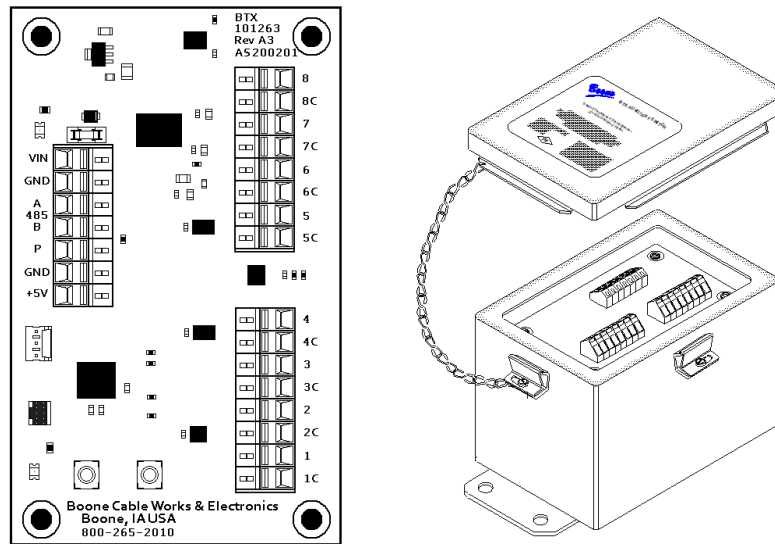

Figure 4. BT8/BTX board with BT8/BTX board in enclosure (module).
These are used to minimize the amount of wire and cable necessary by eliminating redundant runs. A full temperature system can keep track of >500 separate thermocouple sensors. Only one Group (or section) of eight is connected to the module at any one time. The module is an enclosure that holds one or more of the BT8/BTX Boards or a BT8/BTX board with a BRX board to connect the information from the BT8/BTX back to a wireless Gateway. (See figure 4)
**4.1.2. BT8/BTX Board:** This board (Figure 4.) has on one side, a power input (12V DC and common), a 485 output (A & B), a Motion sensor output (P(ulse), GND, +5V), and on the other side, 8 thermocouple inputs (2 blocks of 4).